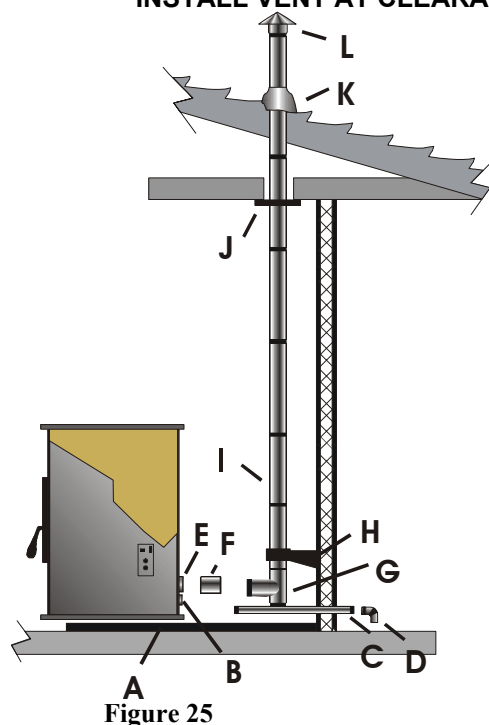

Figure 25
-  The stove must have a permanent outside air source with a 1/4 inch screen over the inlet. Figure 25, (B, C & D)
-  Chimney/PL Vent must be 3" or 4" PL Vent and must extend a minimum of 36" above the roofline of the mobile home and must be installed using a UL / ULC listed ceiling fire stop (J), figure 25, and rain cap (L), figure 25.